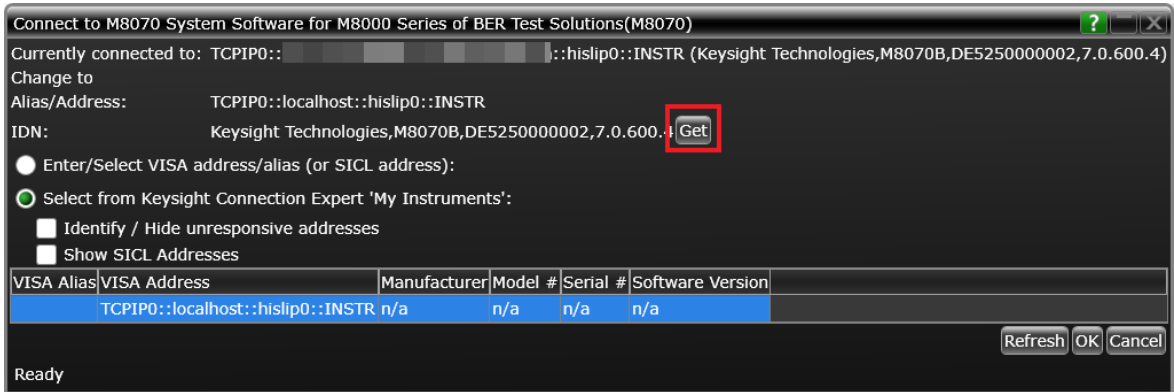

Figure 9 IDN field displaying successful connection to M8070B
- 3 Click **Get** (highlighted in Figure 9) in the **Connect to M8070B System Software for M8000 Series of BER Test Solutions(M8070)** window. The **IDN:** field displays the instrument name.